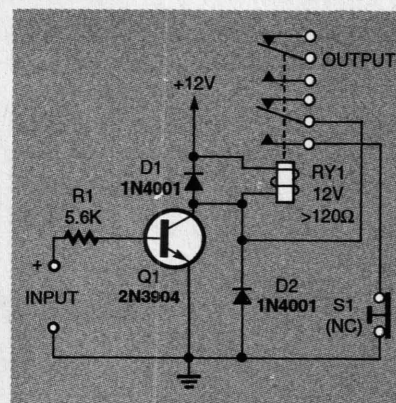

FIG. 2—SELF-LATCHING TRANSISTOR-driven relay switching circuit.
shown in Fig 2. Relay RY1 now has two sets of normally open (NO) contacts; the upper set is